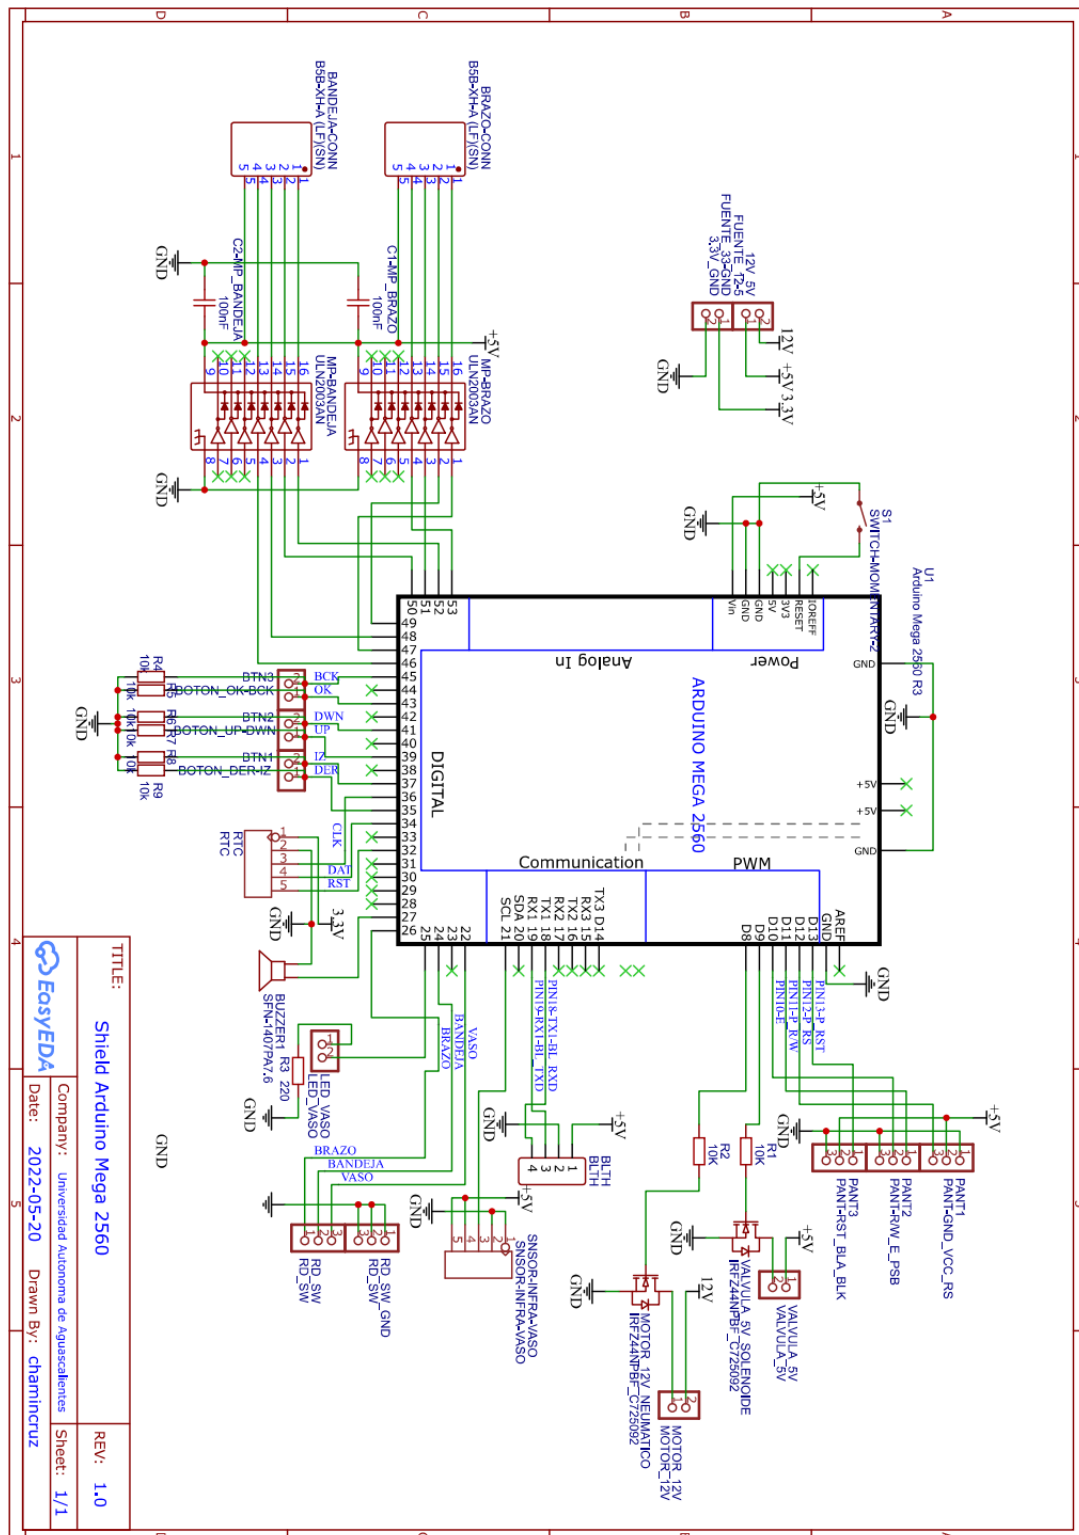
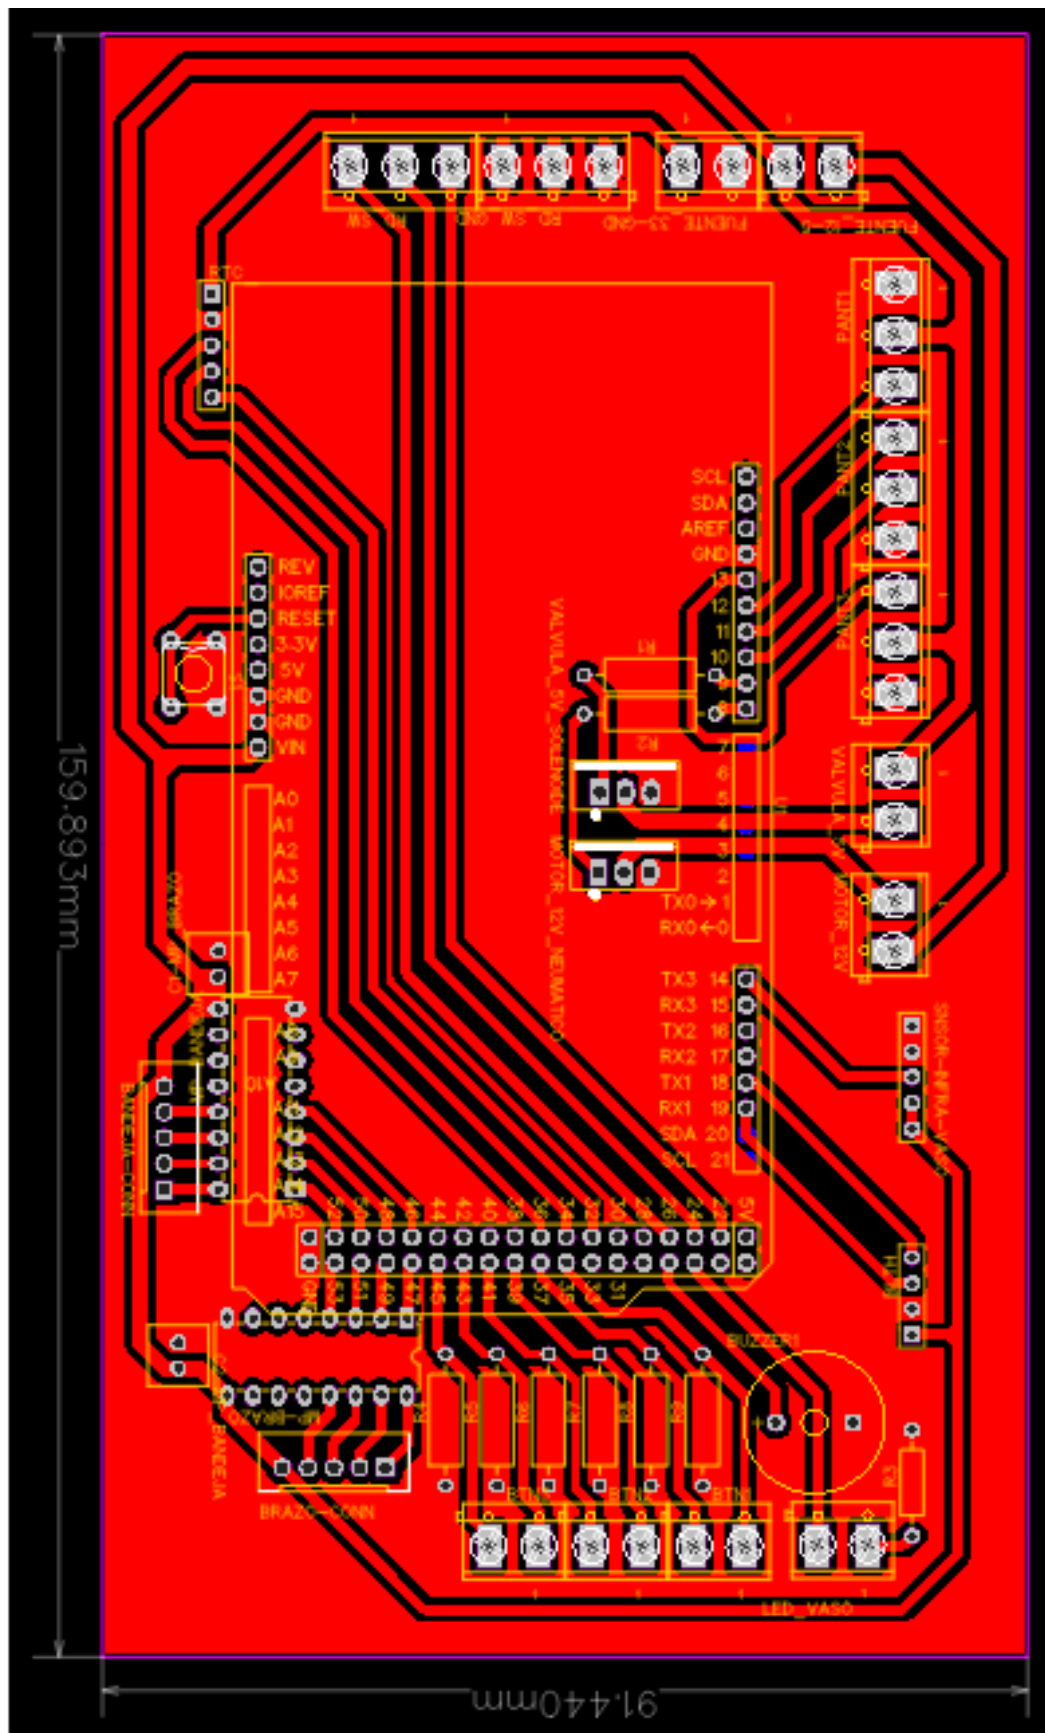
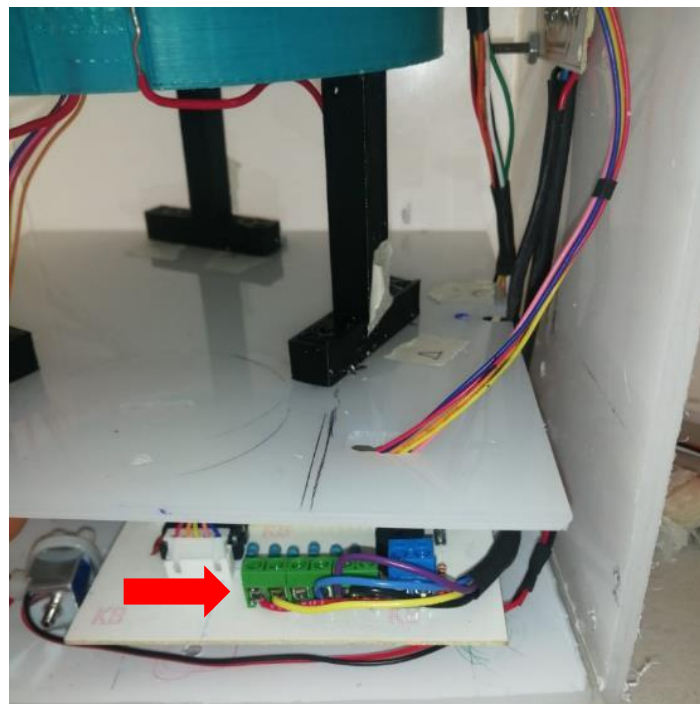

Figure 10– Electrical schematic of the motherboard
Figure 11- Motherboard PCB
Figure 35 - Connection of the motors in the electrical part.
Figure 10 shows the electrical schematic circuit of the motherboard. Figure 11 shows the PCB. This is the most important circuit in the pill dispenser as this is where the peripherals connect.
20. Connect the stepper motors according to the motherboard schematic (Figure 10) as shown in Figure 35.